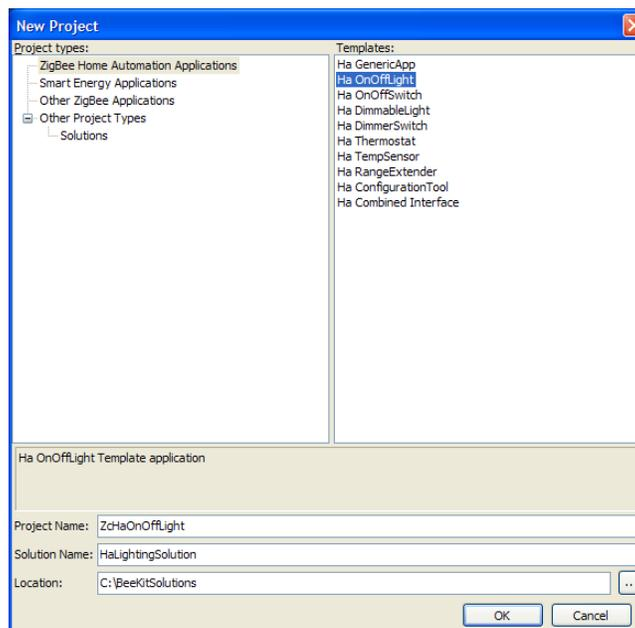

Figure 3-2. Project/Template Select
5. As shown in Figure 3-2, select the HaOnOffLight template.